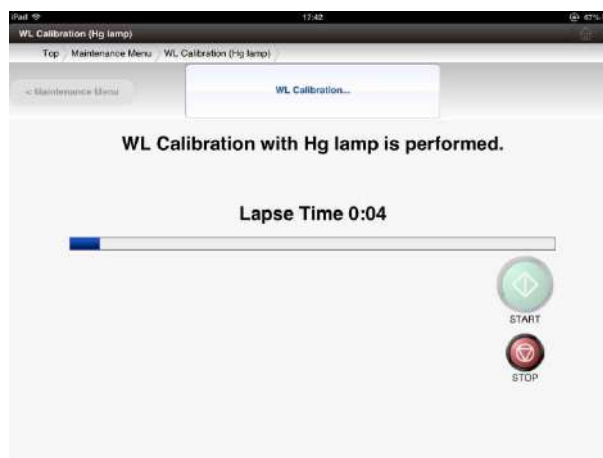

Fig. 6-50 Wavelength Calibration by Pen Type Low-Pressure Mercury Lamp Under Way Screen
- (5) The calibration by Hg lamp starts and the screen in Fig. 6-50 is displayed.